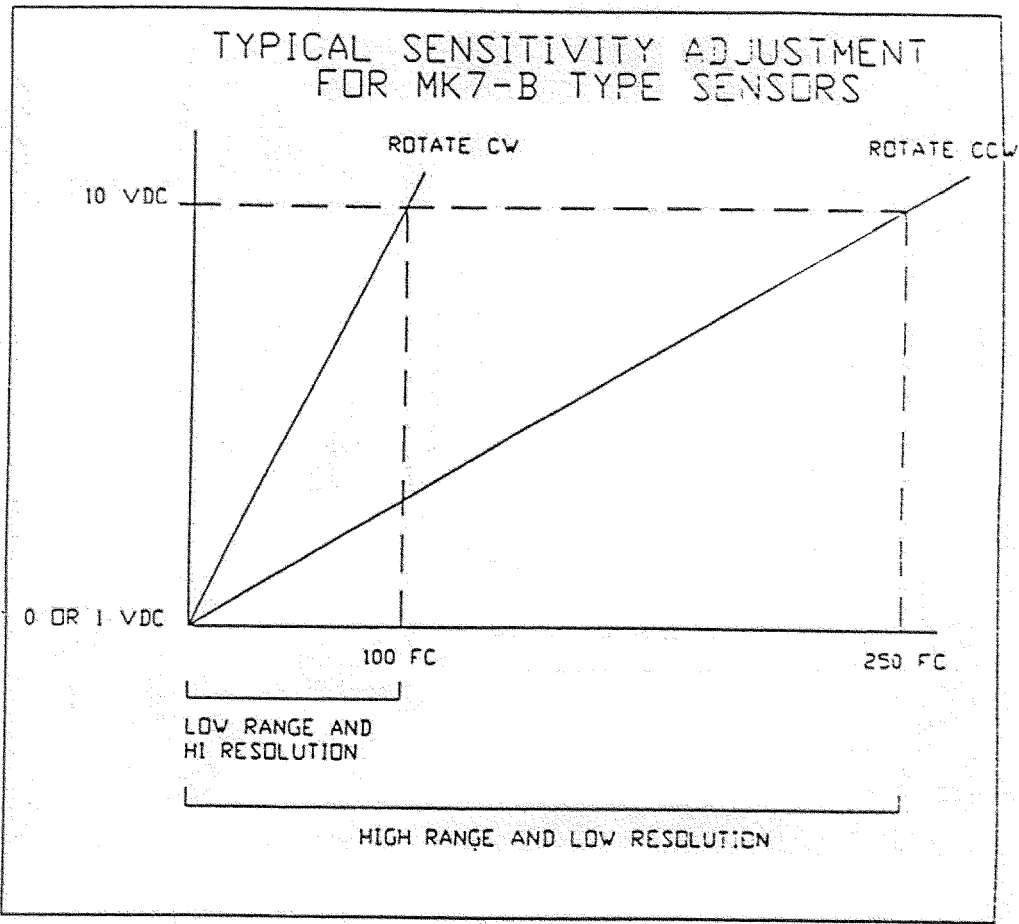

FIGURE 3
4. If a light meter is available measure the maximum light level that needs to be monitored. At this light level rotate the adjustment tool, to calibrate the sensor's output to this corresponding light level. See figure 3 for sensitivity adjustments.